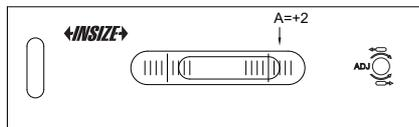

Fig.2
b) After the bubble stops moving, read A on the scale (Fig.2).